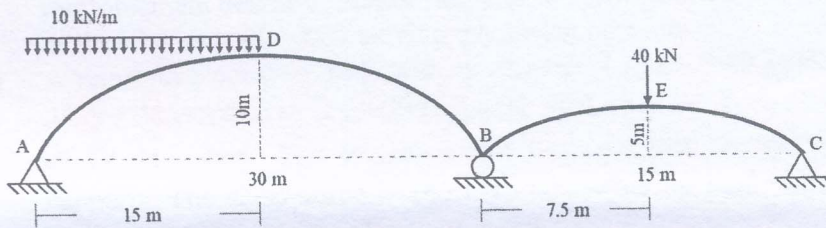

Fig. 7
- 4 Find the horizontal thrust and draw the BMD for the parabolic arches shown in Fig. 7. (15) CO4